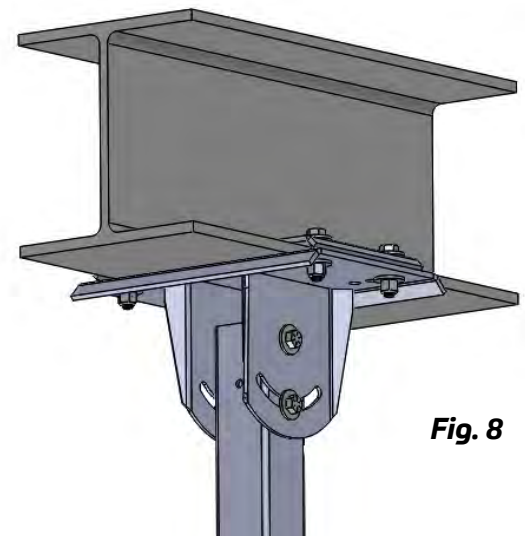

Fig. 8
2. Insert the bolts, washers and tighten to a minimum 40 ft-lbs (54.2 Nm). (Fig 8)